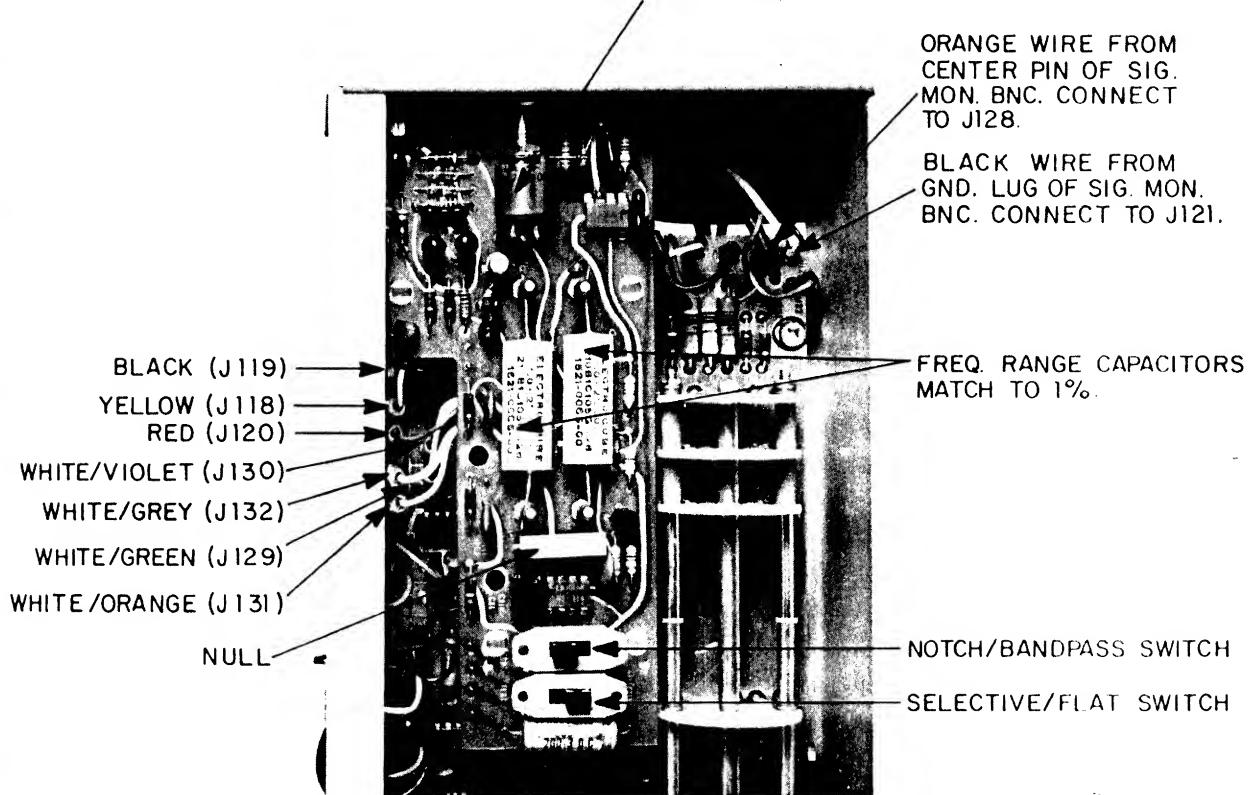

Figure IV-14. TUNED AMPLIFIER INSTALLED
Note from Figure IV-14, a photograph of the Model 128A with the Tuned Amplifier installed, that there are two trim-adjustments and two switches on the Tuned Amplifier.
- (1) Remove the top cover from the Model 128A. This cover is secured by four screws, two on each side.
- (2) Mount the BNC connector in the SIG. MON. opening in the rear panel. (It will be necessary to first push out the plug, which can then be discarded.) Be sure to use the insulated bushings supplied so that there is no contact between the shell of the connector and chassis ground. Then connect the orange wire (attached to the connector) to pin J128 (rear edge of Signal Amp. Bd.) and the black wire to J121.
(3) Position the Tuned Amplifier as shown in Figure IV-14 but do not snap it into place yet. (It is easier to make the wire connections first.)
(4) On the Model 128A, remove the jumper (white/orange) which interconnects J129 and J130. Also remove the jumper (white/violet) which interconnects J131 and J132. It may be a good idea to tape these jumpers somewhere to a chassis surface inside the Model 128A to prevent their becoming lost.
(5) Make the wire connections from the Selective Amplifier to the following listed pins.